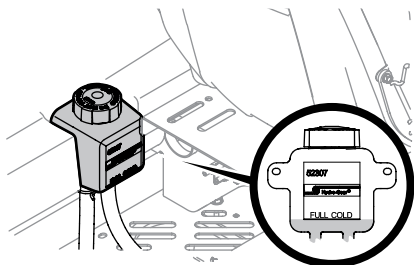

Figure 4-4
1. Clean the reservoir cap and the area around the cap to prevent debris from contaminating the transmission oil. See Figure 4-4.
2. Turn the reservoir cap counter-clockwise to remove, then check the oil level in the reservoir. Oil should be visible at the bottom of the cap, but the oil level must NOT be above the "FULL COLD" line. See Figure 4-4. DO NOT FILL THE RESERVOIR.
1. Remove the cap from the transmission oil expansion reservoir. See Figure 4-4.